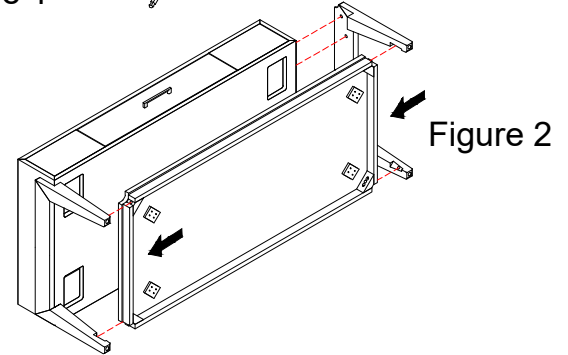

Figure 2
2. Attach leg frame and bottom shelf on the table of step 1. (See Figure 2).